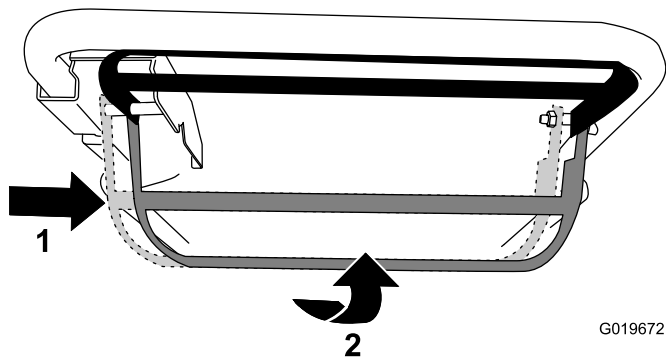

Figure 19
- **To operate the self-propel drive and engage the blade:** Move the blade-control bar all the way to the right and raise it to the handle (Figure 19).